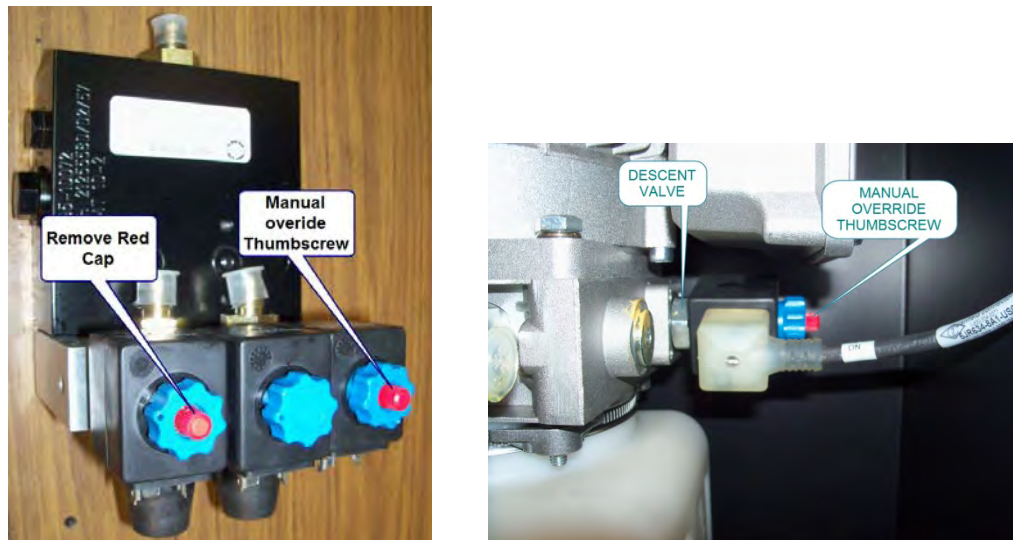

Figure 30 – Image of descent valves
- 5) Locate the descent valve on the hydraulic power unit, see Figure 30.
- 6) Locate the manual override thumbscrew (red) on the top of the descent valve, see Figure 30.